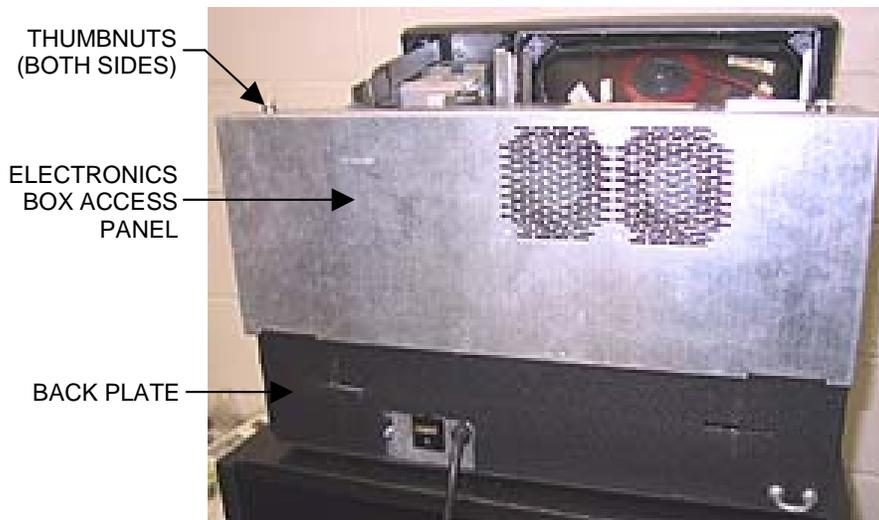

FIGURE 1 - FULL MAXX - REAR OF GAME WITH LID REMOVED
13. Replace the back plate along the bottom of the game, then reconnect the 2 fan power connectors and replace the electronics box access panel. Secure the panel with the 2 thumbnuts. See Figure 1.